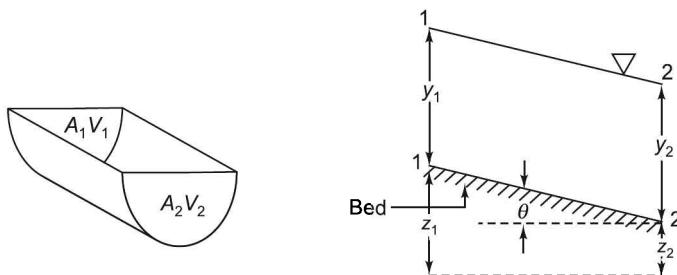

FIGURE 18.50 Small length of channel as control volume.
- (a) **Conservation of mass or continuity equation:** Consider the flow as shown in Figure 18.50.